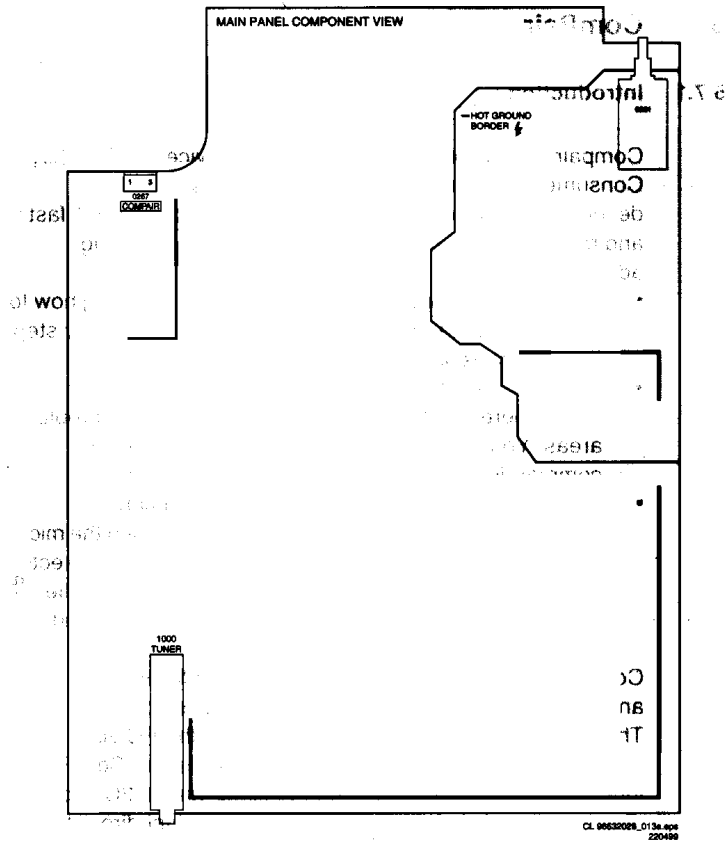

Figure 5-9
8. Connect the other end of the interface cable to the ComPair connector on the monocarrier (see figure 5.9)